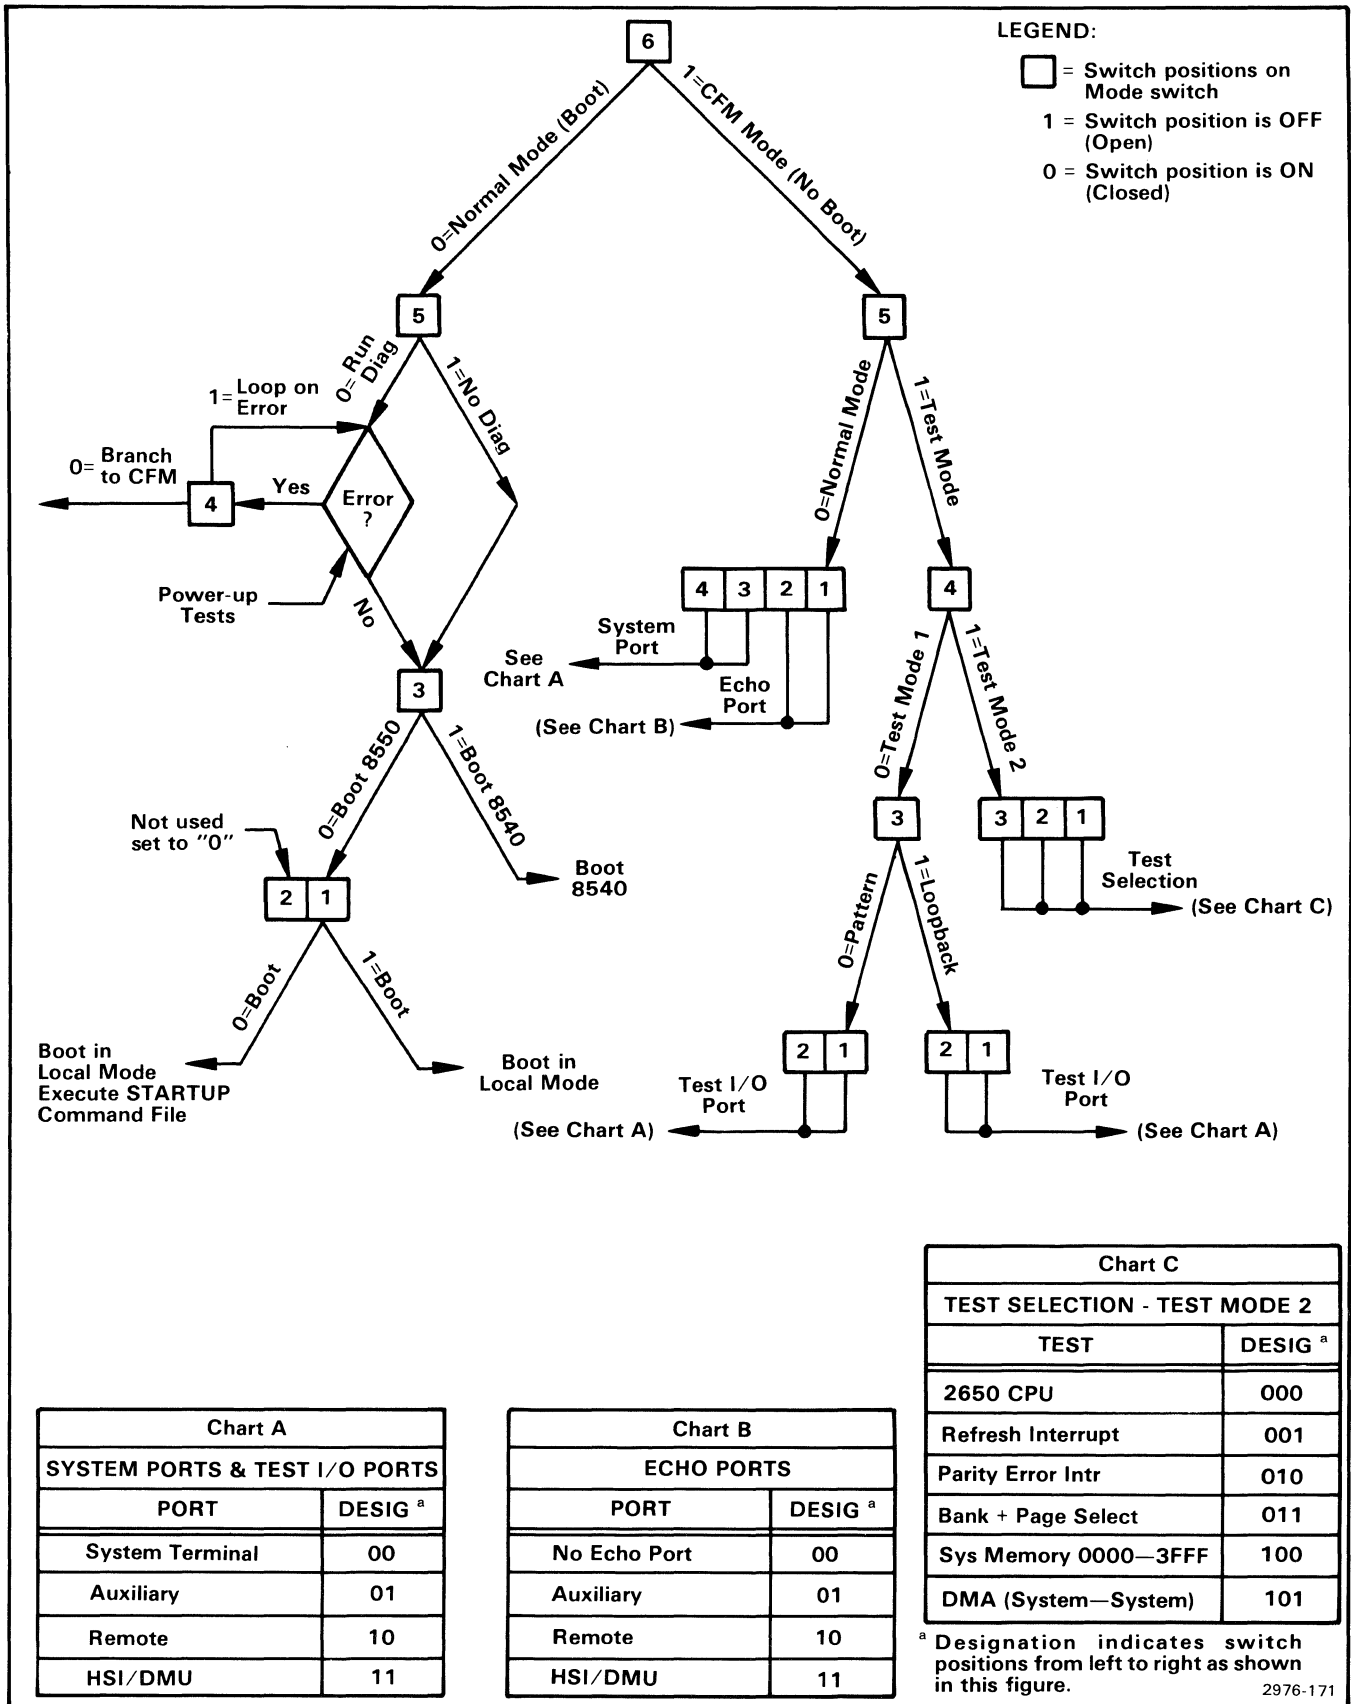

Fig. 3-8. Mode switch decision tree (Version V2.x).
Figure 3-8 is the mode switch decision tree for Version V2.x. This figure will be referred to often in the following paragraphs. This decision tree has two main branches: normal (boot) branch and CFM (no boot) branch. The position of the mode switches determine the various options available. Switch position 6 is read first and then the remaining switches are read in a consecutive descending order. Switch position 6 selects one of the main branches as shown in Fig. 3-8.
2. The other method of selecting the CFM is to set the mode switch position 6 to "1" (OFF or Open). This method fully utilizes the capabilities of the CFM. The CFM user commands can be entered and displayed on a choice of peripherals. It also permits the selection of either CFM normal mode, Test Mode 1, or Test Mode 2. Refer to Fig. 3-8.
The power-up/restart sequence for Version V2.x of the 8301 is shown in the accompanying flow diagram, Fig. 3-9. The following steps describe this sequence. (Refer also to Fig. 3-8.)
The eleven power-up tests of version V2.x are sequentially executed unless an error is detected during any of the tests. At which time the program displays an error code on the LEDs and looks at mode switch position 4. Switch position 4 permits looping on the error or entering the CFM. Refer to Figures 3-8 and 3-9.